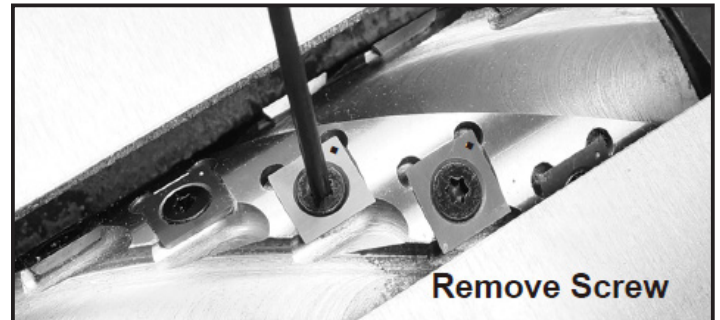

FIG.7.1.2
- Remove the screw (#203), that holds the Insert in the cutterhead, and the insert cutter (#202). FIG. 7.1.2